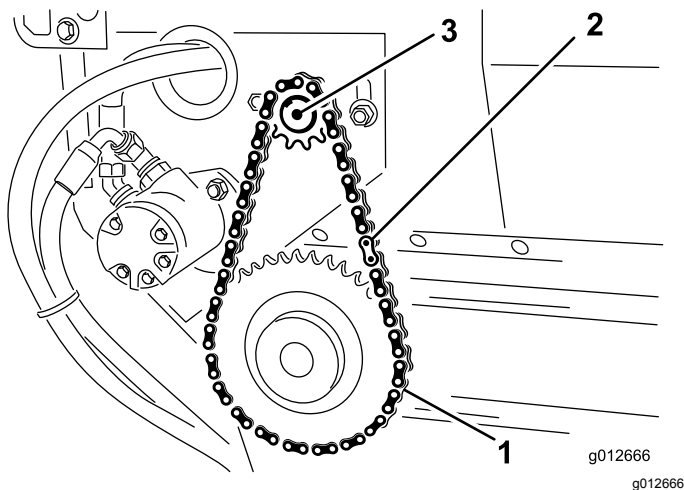

Figure 23
2. Remove master link from chain and remove chain from small sprocket (Figure 23).